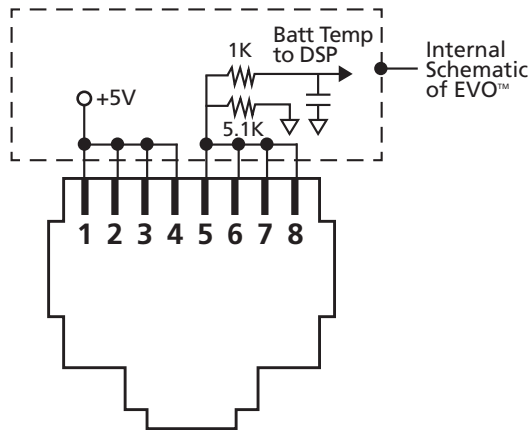

Fig 3.13 Pinout of RJ-45 Jack marked “Battery Temp Sensor” on the front panel of EVO™ (6 in Fig 2.1).
RJ-45 Plug [2 in Fig 2.5(b)]: The RJ-45 Plug is required to be plugged into the RJ-45 Jack marked “Battery Temp Sensor” on the front panel of EVO™ (6 in Fig 2.1). Pinout of the RJ-45 jack is shown in Fig 3.13.
Pinout of this RJ-45 Jack [marked “Battery Temp Sensor” on the front panel of EVO™ (6 in Fig 2.1)] is shown at Fig 3.13 below:
- Connect to any of Pins 1/2/3/4 (Refer to Fig 3.13 for pinout of RJ-45 Jack. Pins 1 to 4 are internally shorted)
- Connect to any of Pins 5/6/7/8 (Refer to Fig 3.13 for pinout of RJ-45 Jack. Pins 5 to 8 internally shorted)